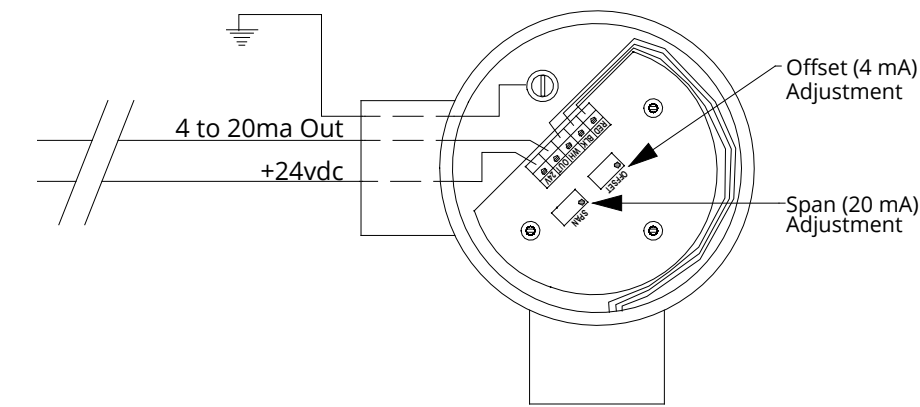

Figure 8.1
- Repeat as necessary to fine tune calibration. (See Figure 8.1)